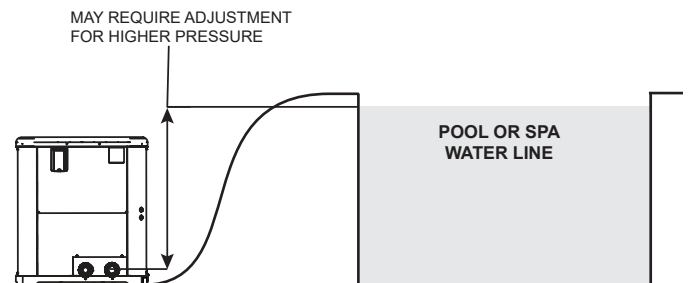

Figure 4. Water Pressure Switch Adjustment
- When the heater is located below the water line of the pool or spa, it may be necessary to adjust the Water Pressure Switch (WPS) to compensate for the no-flow static head (see Figure 4). If after adjusting the WPS to its maximum setting without resolution, an external Water Flow Switch (WFS) must be installed. See "Water Flow Switch" section below for further installation instructions.